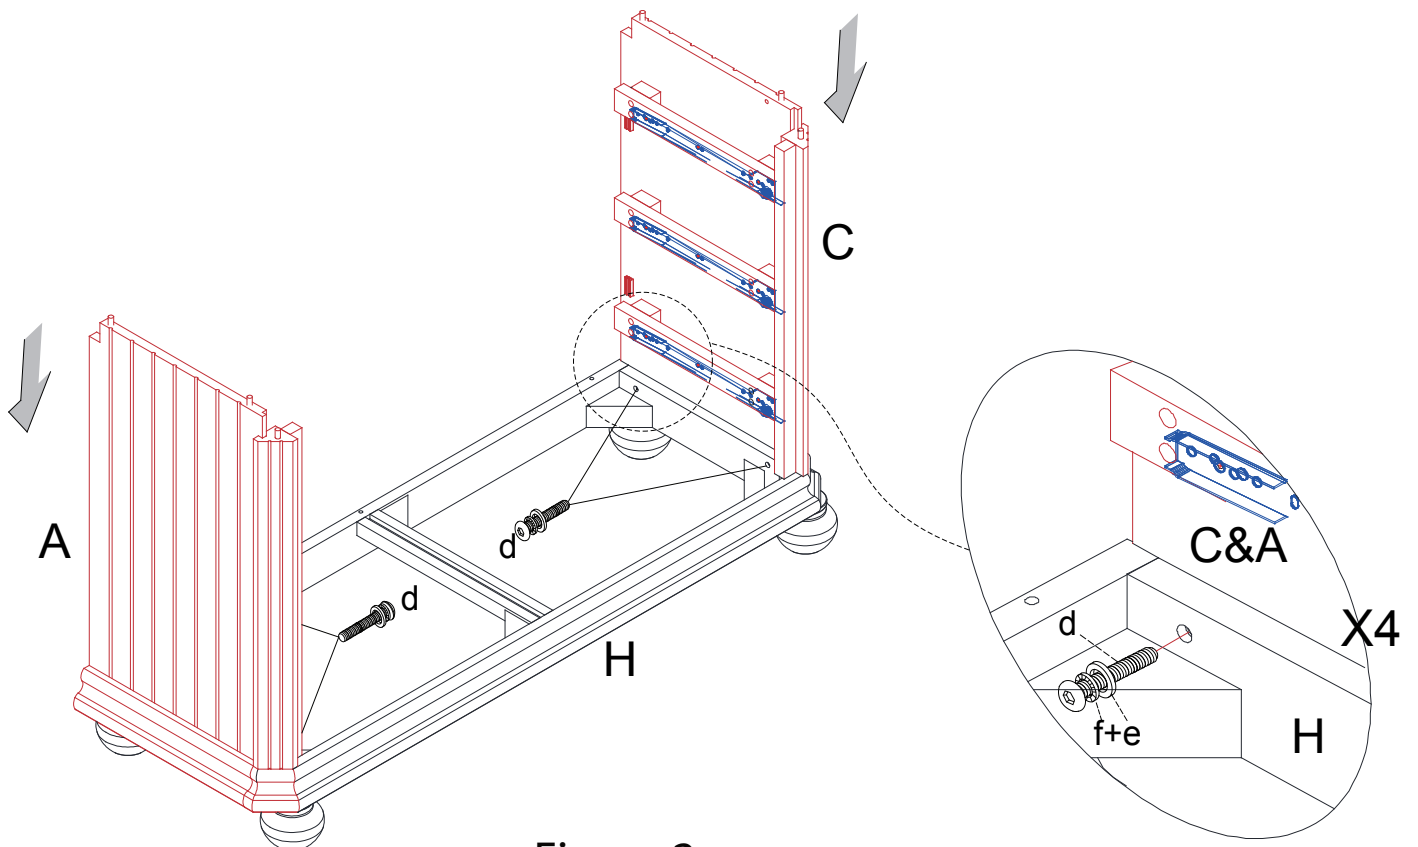

Figure 2
- 2 Attach left side panel (A) and right side panel (C) to Bottom Frame (H) by using 4 Bolts (d) & 4 Flat washer (e) & 4 Spring washer (f) as Figure 2.
2. Slide Drawer Bottom (R4) and into drawer Bottom Support (R5) assembly. *Figure 2*